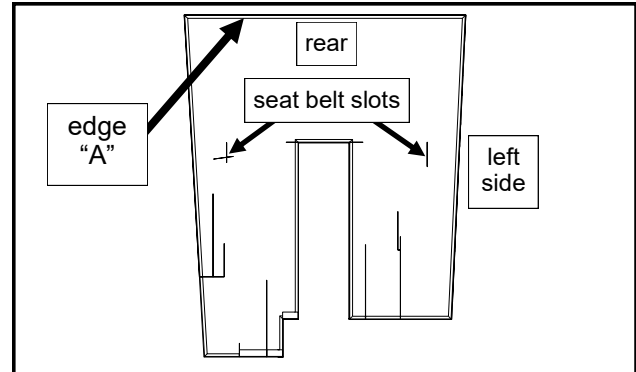
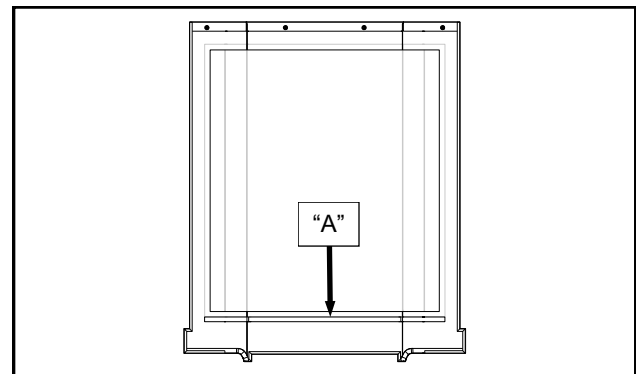

Fig. 18.1a (underseat filler)
Fig. 18.1b (rear curtain - inside surface)
18.1 Move and tip the seat forward. Figures 18.1a and 18.1c thru 18.1e show the underseat filler. Begin by doing a dry fit to get a feel for where all areas fit best (underseat filler edges highlighted in white for clarity). Start by lining up straight edge "A" (in fig. 18.1a) with the stitched-on Velcro ("A" in fig. 18.1b) found on the rear curtain. Apply the corresponding Velcro where deemed necessary and to match the Velcro on the vinyl filler. Do not cover up any factory decals. *Note: slots are for seat belts to pass through on non-TLB vehicles only.*